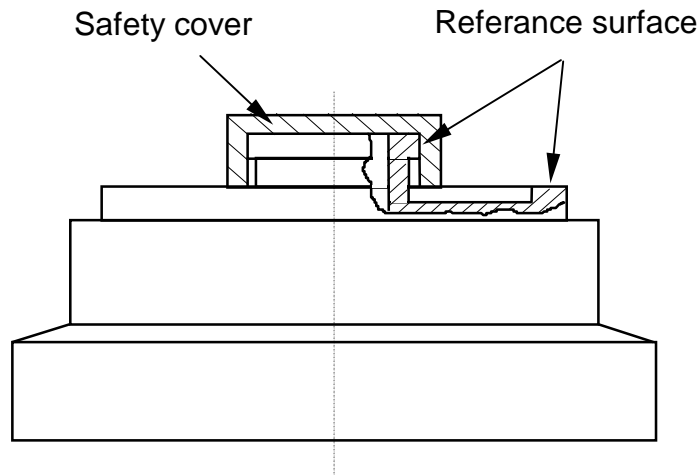

Fig. 4.2.2: Reference surface of the spherometer
Within the Spherometer's tube is an incremental digital length gauge with ball-point measuring contact MT 60 which is exactly centric adjusted by means of the centre disc. Spherometer rings must be carefully placed on the support and/or reference surface (Fig. 4.2.2) of the centre disc with a clearance fit.
4. Remove safety cover of the spherometer (Fig. 4.2.2).